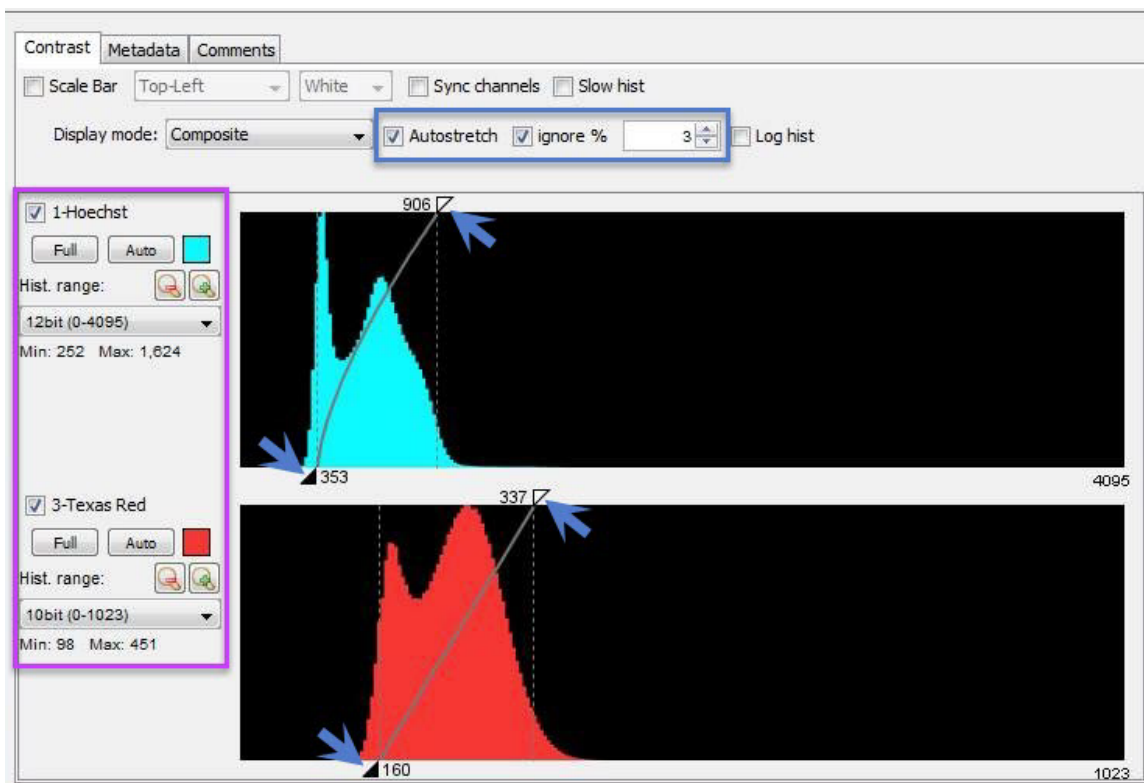

Figure 23. Adjusting camera depth and image contrast.
- a. In the *Main* window, select the *Contrast* tab and ensure that “Camera Depth” menu is set to **12 bit (0-4095)** for Hoechst and **10 bit (0-1023)** bit for Texas Red in the (purple box in Figure 23, below).
- b. Next, confirm that the [Autostretch] and [Ignore] boxes are selected, and that the percentage value is in the range of **1–3%** for Ignore option (blue box in Figure 23). If this does not provide optimal contrast, drag the ends of the diagonal line (see arrows in Figure 23) closer to the range of the histogram peaks and zoom out when satisfied with the focus in the Z-plane.